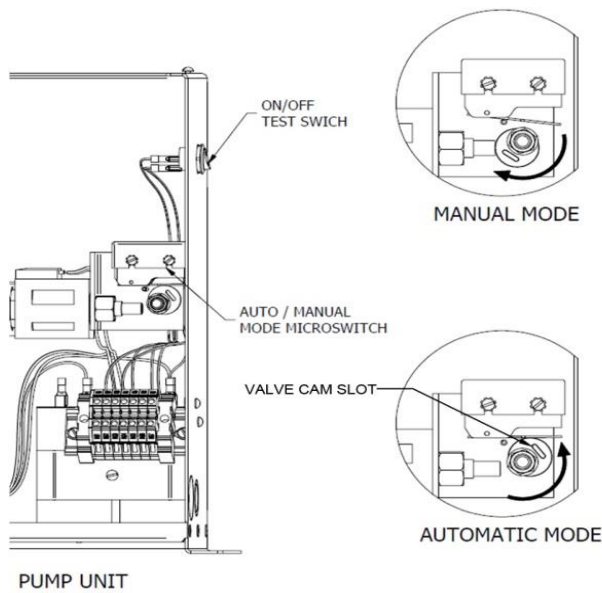

Figure 1: Test Switch Valve Stem and Cam Location
1. Refer to Figures 1 and 2 for location of Rope Gripper® parts. Place Elevator on Inspection and turn test (power) switch “OFF”.
4. With a flat bladed screwdriver placed in the slot of the valve cam, turn the cam clockwise to fully close the valve (Manual Mode, see Figure 1 & 4).
14. Turn the test switch “ON” and turn the valve cam counterclockwise to actuate the “Auto/Manual Mode Micro Switch” in the auto position (Automatic Mode, see Figure 1).